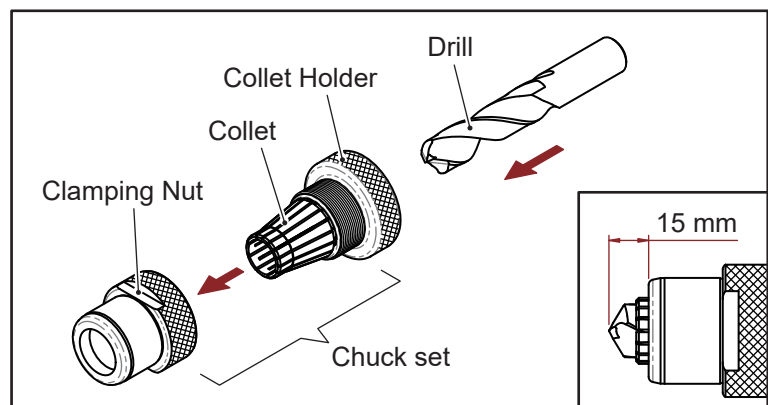

Fig. 7-2
3. Screw in a little bit by clamping nut, then insert the drill through the collet holder until the drill tip is about 15 mm out of the clamping nut (Fig. 7-2), slightly screw the chuck set to tighten the drill a little bit.